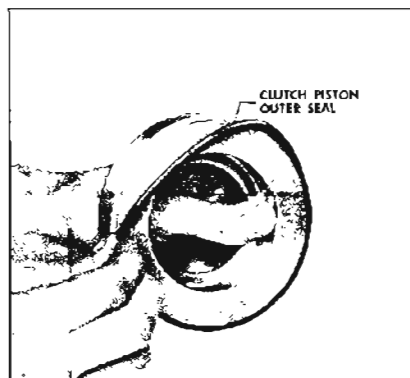

Figure 5-222
10. Examine forward clutch piston outer seal. If nicked, torn or worn, remove seal. See Figure 5-222.